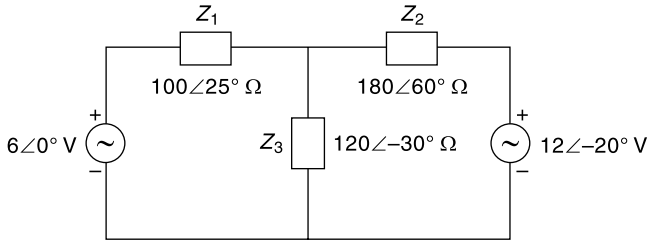

Fig. 6.42
10. Using the superposition theorem find the current through Z_3 in the network shown in Fig. 6.42. [Ans: $47.6\angle-9.7^\circ$ mA]